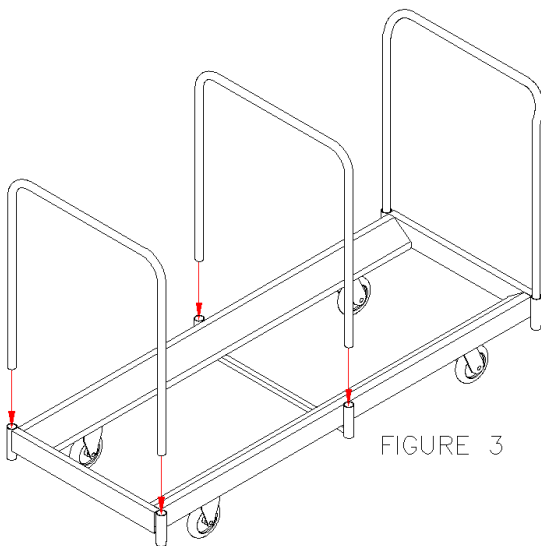

FIGURE 3
3. Insert the End Handles into the sockets (See Figure 3).